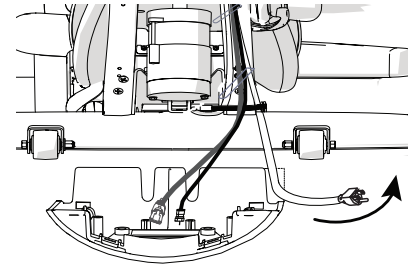

Figure 11
5. **For all consoles:** Attach the lower panel using two screws ②, and route the power cable through the slot. Fully tighten fasteners on the panel (see arrow in Figure 11).